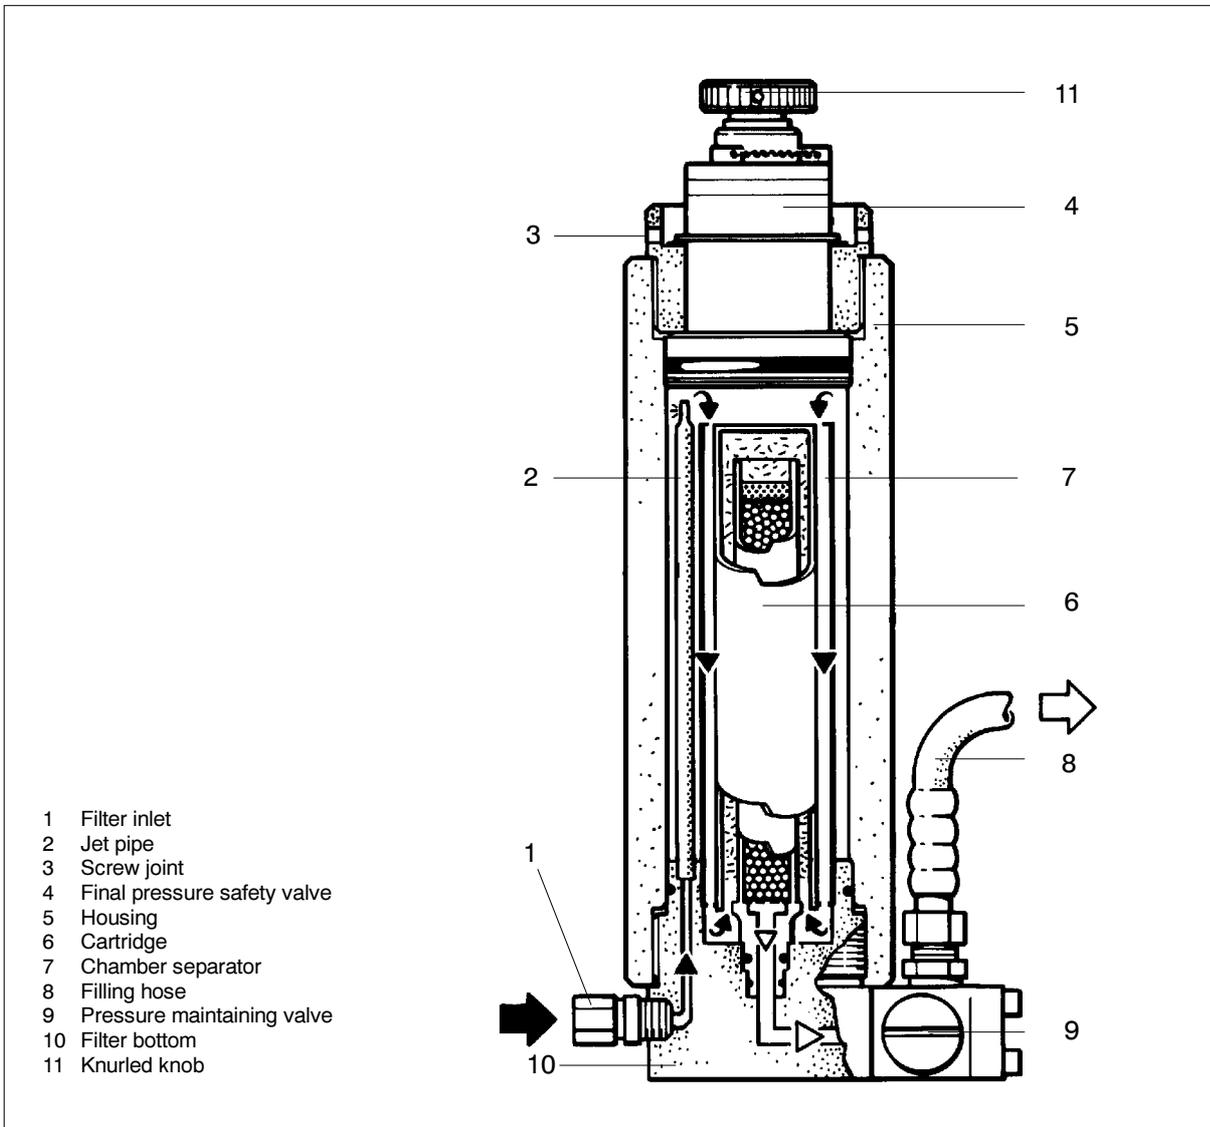

Fig. 8 Filter system P21
Air leaving final stage is cooled in the after-cooler to approx. 10 - 15 °C (18 - 27 °F) above ambient temperature and then enters filter system **P21** with **TRIPLEX** longlife cartridge (Fig. 8). The filter assembly consists of separator and cartridge chamber. In the separator surrounding the cartridge chamber liquid oil and water particles are reliably separated from the compressed medium by a pipe nozzle.
- Unscrew knurled nut (3, Fig. 8) on top of the filter.